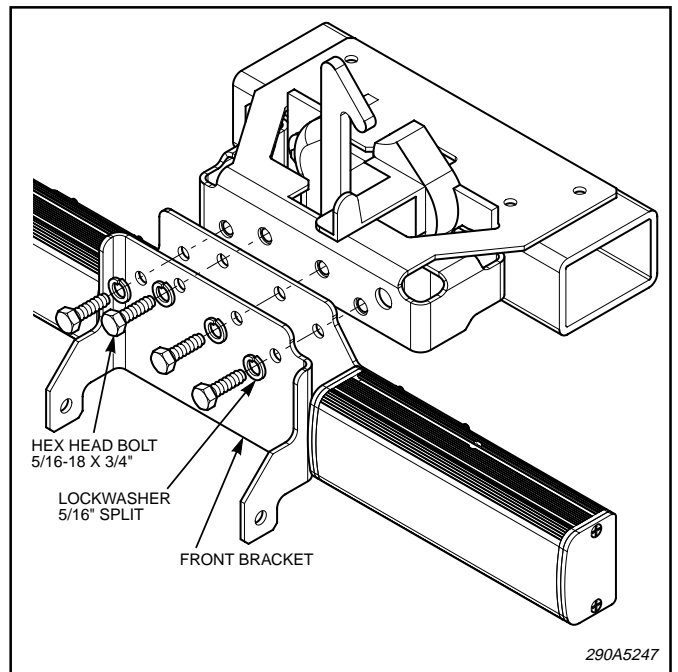

Figure 5.
i. Attach the front bracket and the Cuda TriOptic mounting plate assembly to the main bracket using four 5/16-18 bolts and split lockwashers. See figure 5